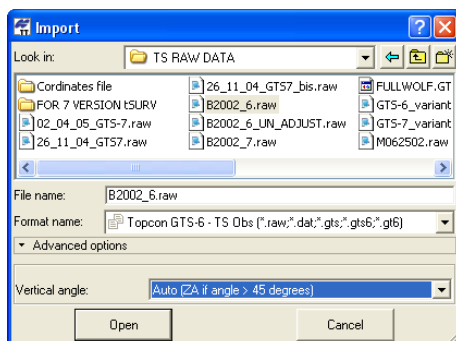

Figure 3-24. Import TS Obs File
5. Click **Open** to import the file (Figure 3-24).